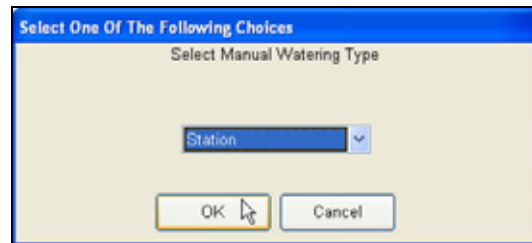

Figure 7.2.5
4. Using the Manual key Select Manual Watering Type / Station. Click **OK** (Figure 7.2.5).